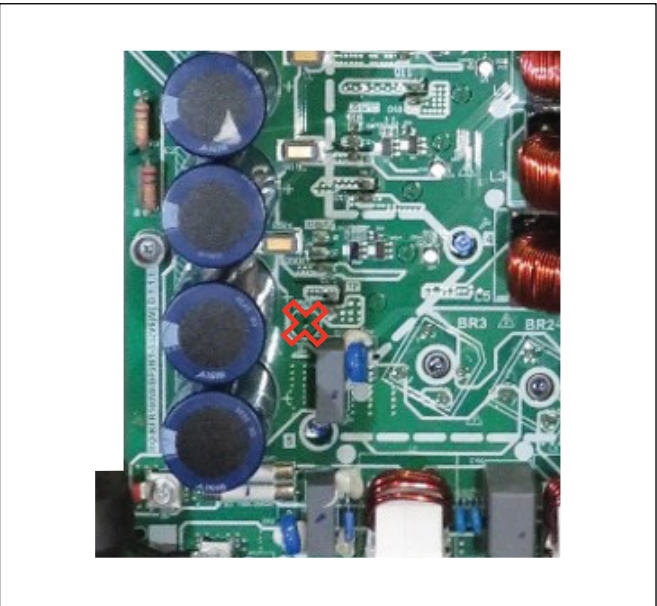

Figure 6
6. Insert a small flathead screwdriver in the vertical slot at the location marked with "X" in Figure 6. Twist the screwdriver to remove the circle piece from the board.